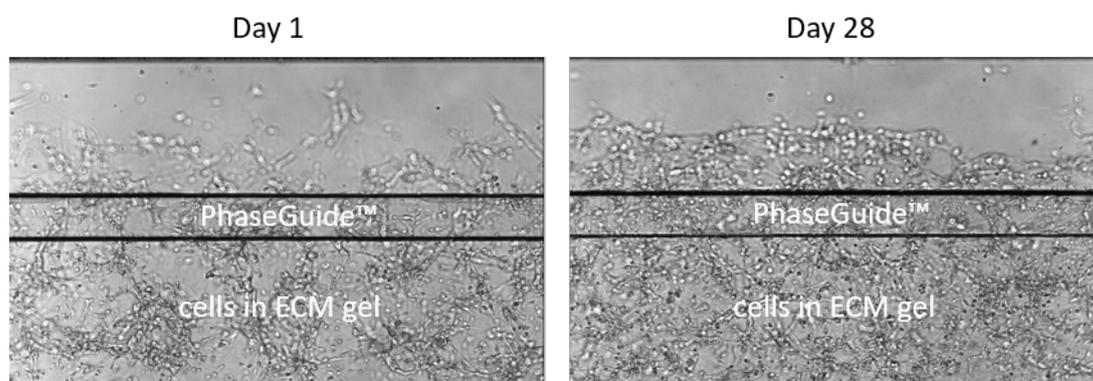

Figure 6: Culture of neural stem cells in Matrigel® in the OrganoPlate®2-lane
13. An example of a CNS cells-in-gel culture in the OrganoPlate® 2-lane is shown in figure 6.